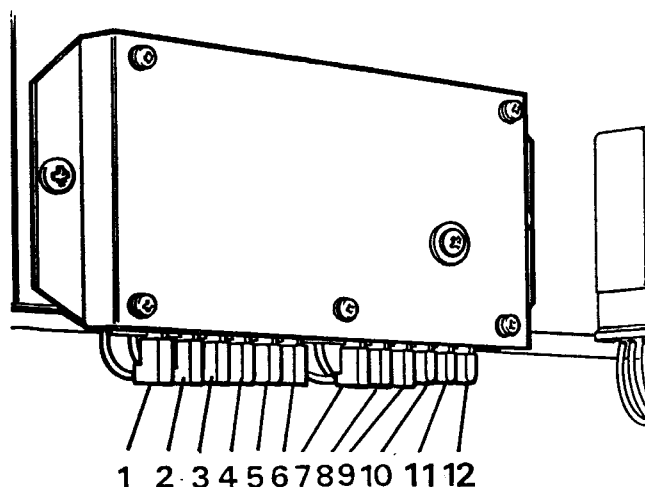

Figure 4
1. The control box is fitted under the fascia below the left hand radio speaker, see figure 4. To facilitate access to the control box terminals, remove speaker grille.